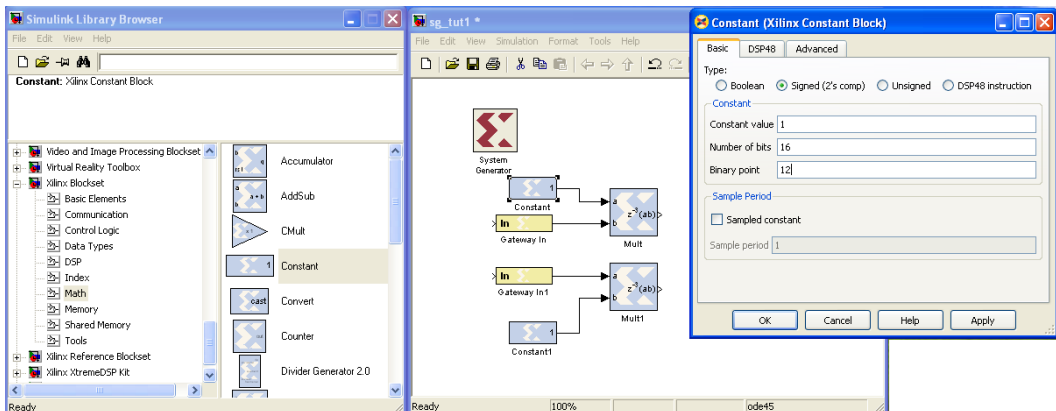

Figure 5: Adding Constants
- Constants:** The system we are building performs two multiplications between the two inputs (variables) and two factors. For simplicity we will use constants to represent these two factors. Although in a typical DSP application we might need to change these factors and we may need to use memory elements to do so. Constants are usually implemented using hardwired configurations. Place two constants by selecting *Xilinx Blockset*→*Basic Elements*→*Constant*. Double click on the constant block to display the constant properties and change the constants values to 5 and 3 as shown in Figure 5. If you use Fixed-point (Signed (2's comp)) then make sure you have enough bits to represent your number (Number of bits 16, Binary point 12) would allow you to represent fraction numbers +7 to -8. Connect the input gateways and the constant to the inputs of each multiplier. To
connect the input gateways to the multipliers input click on the output terminal of the input gateway and with the mouse button down drag the connection link to one of the multiplier's input terminals. Using the same approach connect the constants output to the input of the multipliers as shown in Figure 5.